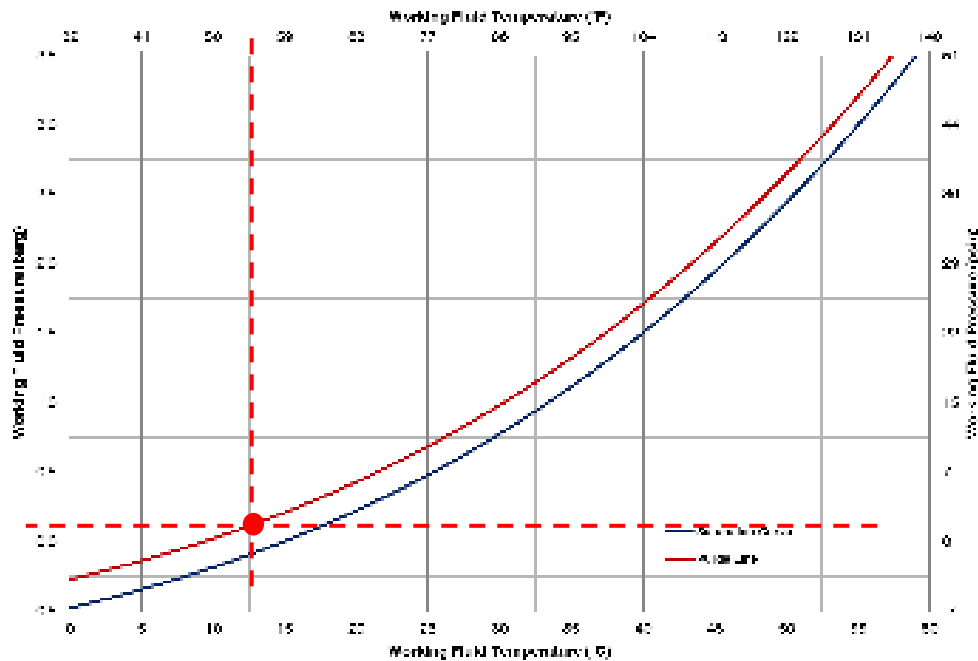

Figure 4-5
- Plot the pressure and temperature as a single point on Figure 4-5 below.